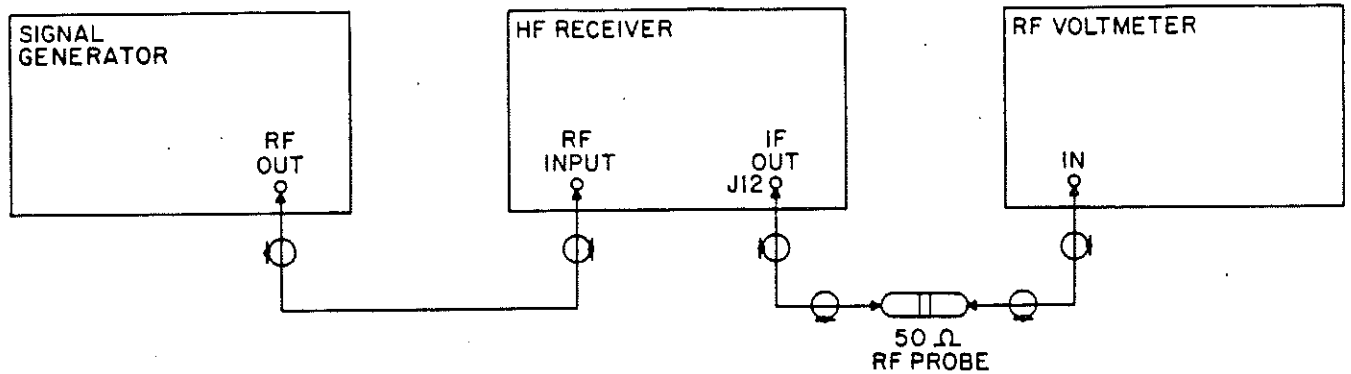

Figure 4-2. Input Converter Alignment Test Setup
1. Deenergize the receiver and loosen the two (2) captivated screws holding the A3 module to the chassis. Pull the A3 module out and remove its cover. Connect test equipment as shown in Figure 4-2. Be careful that Input Converter does not short to the adjacent power supply circuitry.